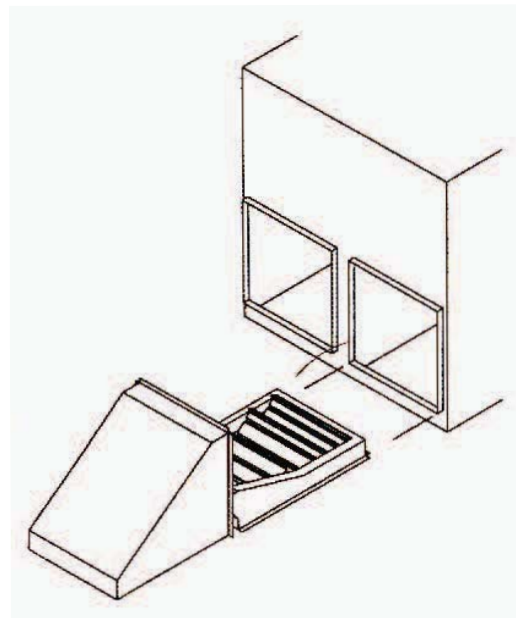

Figure 1
5. Slide the damper/hood assembly into the horizontal opening until the return air dampers are above the downflow return air opening and the fresh air hood is against the side of the unit. (Figure 1)